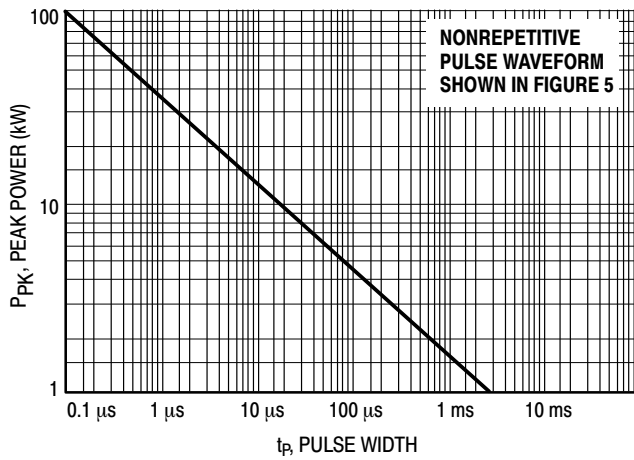
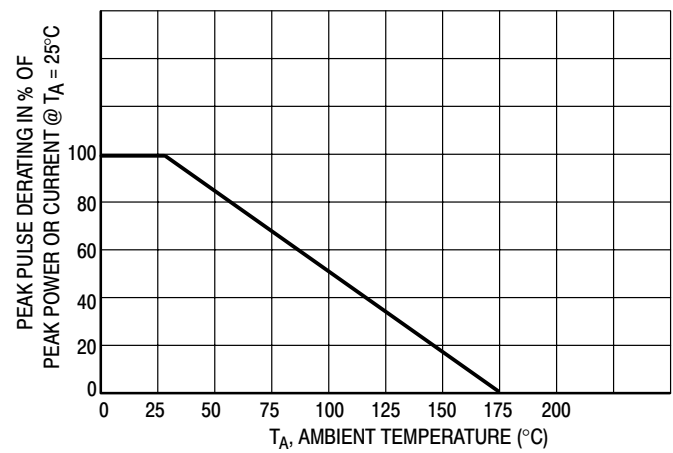
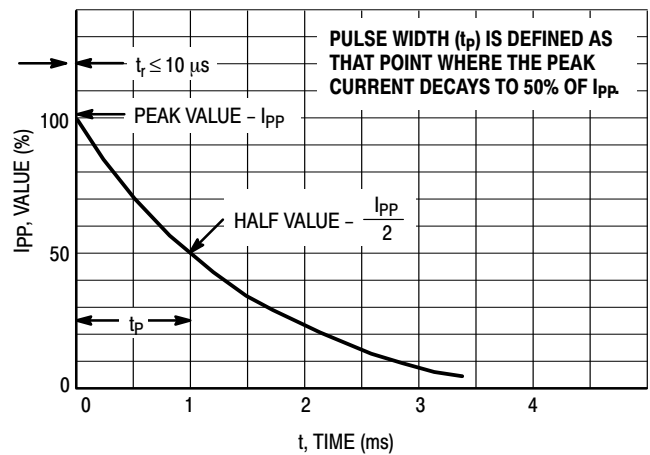
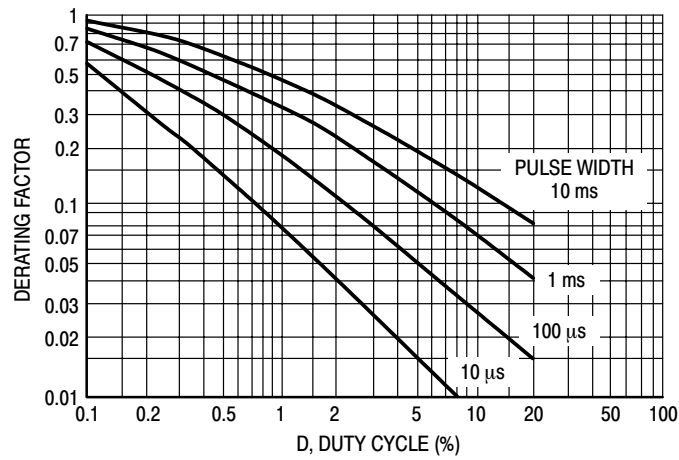

Figure 1. Pulse Rating Curve
Figure 2. Pulse Derating Curve
Figure 5. Pulse Waveform
Figure 7. Typical Derating Factor for Duty Cycle
1. Nonrepetitive current pulse per Figure 5 and derated above $T_A = 25^\circ\text{C}$ per Figure 2.
- Surge current waveform per Figure 5 and derate per Figures 1 and 2.
The data of Figure 1 applies for non-repetitive conditions and at a lead temperature of 25°C. If the duty cycle increases, the peak power must be reduced as indicated by the curves of Figure 7. Average power must be derated as the lead or ambient temperature rises above 25°C. The average power derating curve normally given on data sheets may be normalized and used for this purpose.
At first glance the derating curves of Figure 7 appear to be in error as the 10 ms pulse has a higher derating factor than the 10 μ s pulse. However, when the derating factor for a given pulse of Figure 7 is multiplied by the peak power value of Figure 1 for the same pulse, the results follow the expected trend.